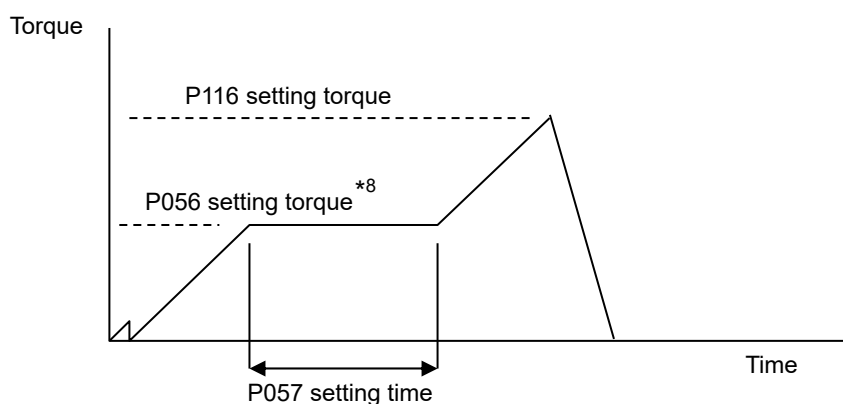

Figure 5-16 Automatic magnetic pole detection 1-time pattern operation
- (3) The [RDY signal] is not output during this operation. After normal end, it is output.
*6 Figure 5-16 indicates operation pattern for one time. In the actual automatic magnetic pole detection, it needs operation for two times.